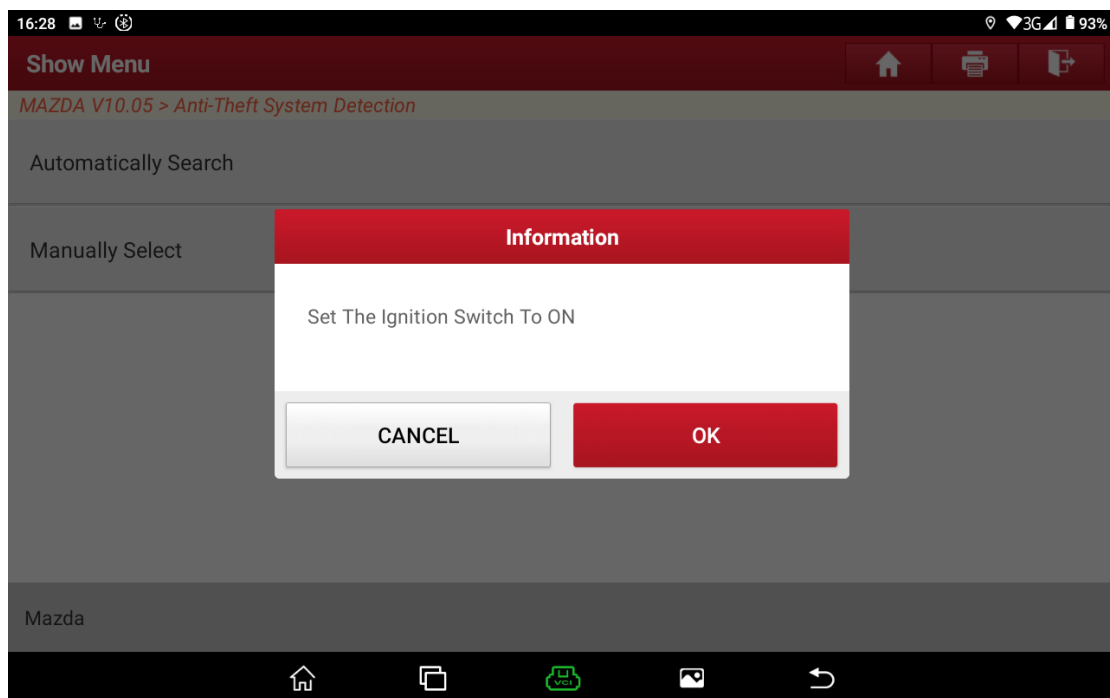

Figure B4
2. Turn on the ignition switch. See Figure B4.